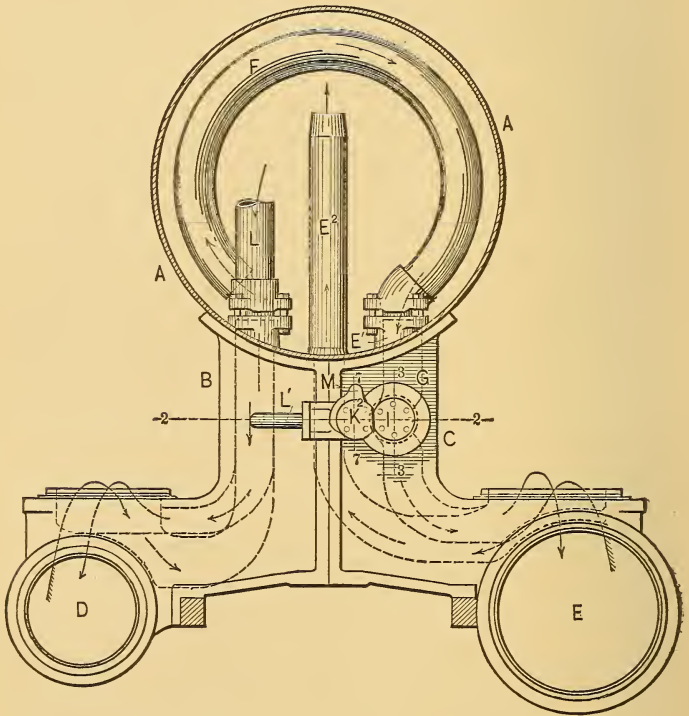
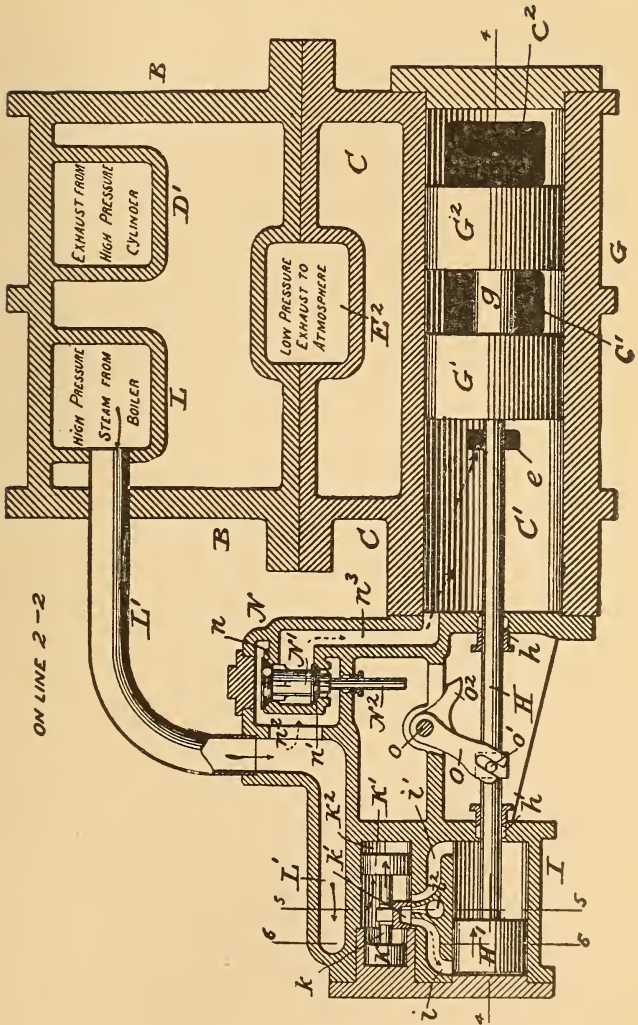
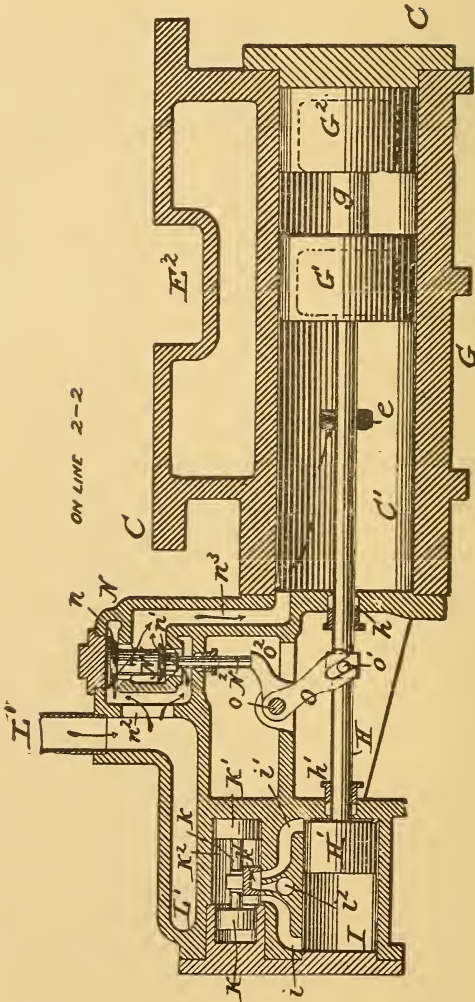
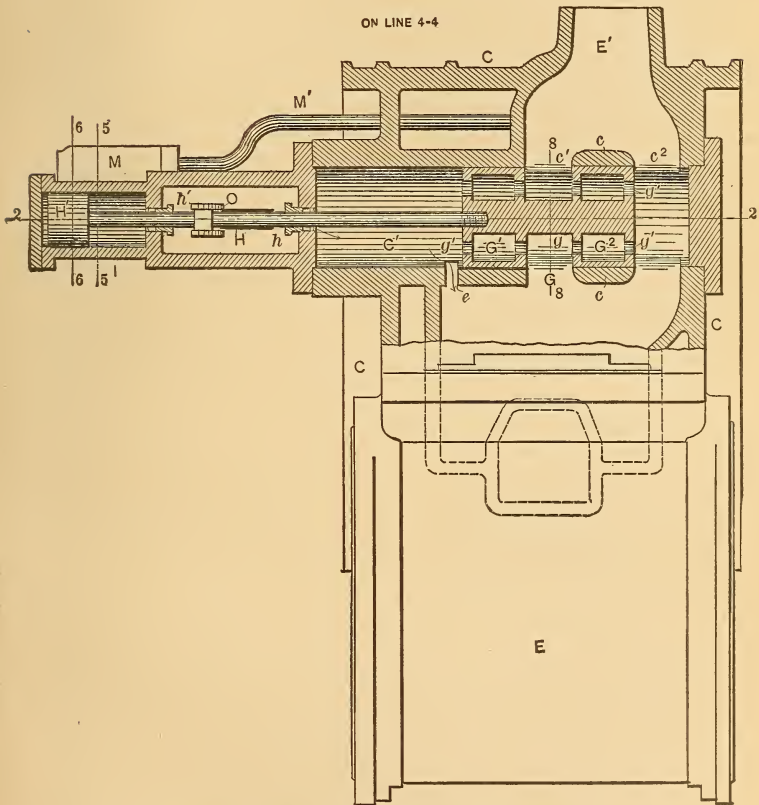

Fig. 161. Front Elevation (partly in Vertical Cross Section) Schenectady Compound.
Fig. 162. Horizontal Cross Section of Intercepting Valve and other Valves on the line 2-2 of Figures 161 and 164.
Fig. 163. Schenectady Compound, Working both Cylinders with Live Steam (see page 281).
Fig. 164. Section of Schenectady Compound.
A. Figure 161, page 274, shows a front elevation, partly in vertical cross section, showing the cylinders, their saddles, the smoke-box, the reservoir, intercepting-valve and steam-passages; figure 162 is a horizontal cross section through the intercepting-valve and other valves relating thereto on the line 2, 2 of figures 161 and 164, showing the relation of parts when the intercepting-valve is open. Figure 163 shows a similar view of some of the same parts in the position which they take when the intercepting-valve is closed. Figure 164 shows a vertical length-wise section through the intercepting-valve on the line 4, 4 of figure 162, with the valve open; this
figure being also a section on the line 3, 3 of figure 161. Figure 165 is a vertical cross section through the regulating and intercepting valve-working division
on the line 5, 5 of figures 162 and 164. Figure 166 is a similar section on the line 6, 6 of the same figures. Figure 167 is a vertical lengthwise section through
the regulating division on the line 7, 7 of figures 161, 165 and 166; figure 168, a vertical cross section
through the intercepting-valve on the line 8, 8, of figure 164. The feathered arrows show the course
of the steam; the short unfeathered darts in figure 162 show the movements of the regulating-valve and the actuating-piston of the intercepting-valve. Figure 161 shows a smoke-box *A* on saddles *B*, *C* connected respectively with a high-pressure cylinder *D* and a low-pressure cylinder *E*, on opposite sides of the engines and having suitable pistons and induction and eduction-ports (not shown). The exhaust-port of the high-pressure cylinder is connected by a pipe *D* (shown in dotted lines in figure 161, and in full lines in figure 164), with a reservoir *F*, the other end of which connects with the inlet-pipe *E* of the low-pressure cylinder, in which the intercepting-valve *G* is placed, and across which it reciprocates to open or close this passage. The intercepting-valve and the apparatus which belong to it are
A. As shown in figures 162 and 164, in which the intercepting-valve is opened and the admission of steam to the low-pressure cylinder, except through the high-pressure cylinder reservoir and induction port E^1 , is cut-off.
A. The throttle-valve is opened, permitting live steam to pass through the branch-pipe L^1 and port l , and the auxiliary or regulating-chamber M , the valve m of which it forces to the right (see figure 167), so as to open the port j and let steam pass into the valve-chamber K^2 , between its pistons $K K$. The right-hand one K^1 of these pistons being larger than the other, the steam pressure forces them to the right from the position shown in figure 162, to that shown in figure 163. This causes the slide-valve Λ^1 to uncover the ports i of the cylinder I , which in turn forces the piston H^1 to the right, closing the
ports $c^1 c^2$ of the intercepting-valve, as shown in figure 162. The relation of the ports is such that as the intercepting-valve closes, the wiper o^2 strikes the stem N^2 of the poppet-valve N^1 and opens it, thus letting live steam pass from the pipe L^1 through the passages $n^2 n^3$ into the intercepting-valve cylinder and through the port e therein to the low-pressure cylinder E below the intercepting-valve, thus operating it with the full pressure of the live steam. The intercepting-valve, as before remarked, is already closed, and the tendency of the live steam is to press it upward in its seat, so as to prevent any leakage into the receiver and consequent back pressure upon the high-pressure cylinder. The perforations g^1 in the intercepting-valve prevent the steam from exerting any endwise pressure upon it in either direction, and it is consequently entirely dependent upon the action of the live steam upon its piston H^1 in the actuating-cylinder I . The intercepting-valve should have sufficient lap to move slightly beyond its closing point, in order that the opening of the supply-valve N^1 may not take place until the intercepting-valve is fully closed, the tappet o^2 being correspondingly adjusted.
and simultaneously opening the port j^1 . The steam then passes through this last-named port and the port j^2 to opposite sides of the larger piston K^1 the result of which is to force the slide-valve k^1 to the left in the position shown in figure 162, which opens the exhaust i^2 and the inlet i^1 of the cylinder I and forces the piston H^1 to the left, thereby opening the intercepting-valve. This movement of the piston H^1 detaches the wiper o^2 from the poppet-valve N^1 and allows it to close quickly before the intercepting-valve opens. The parts having thus resumed the position shown in figure 162, the engine resumes its compound working.